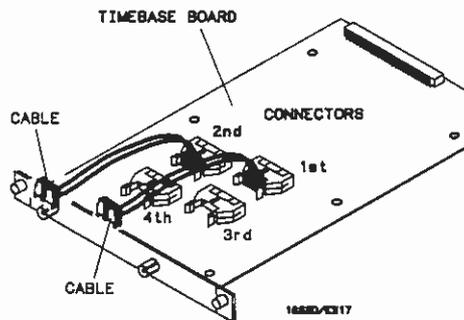

Figure A-10. Cable Position
- h. Lay cable(s) flat and pointing out to rear of card. See figure A-10.